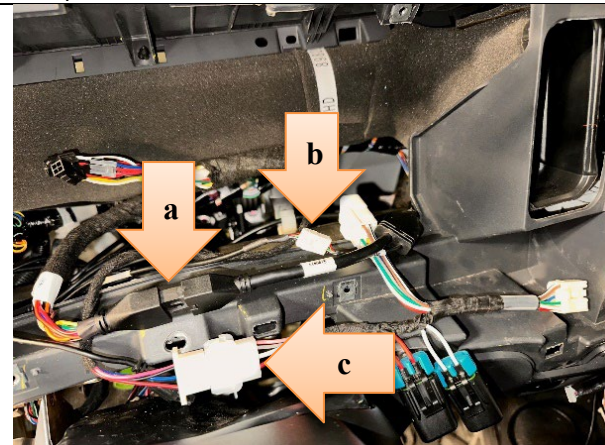

Figure 72
- b. **Mobileye 8:** Connect the camera cable to the signal harness 14 pin black connector and, if equipped, to the optional GPS antenna. Connect the T-Harness connector MH-2 to the signal harness. (See Figure 72.)